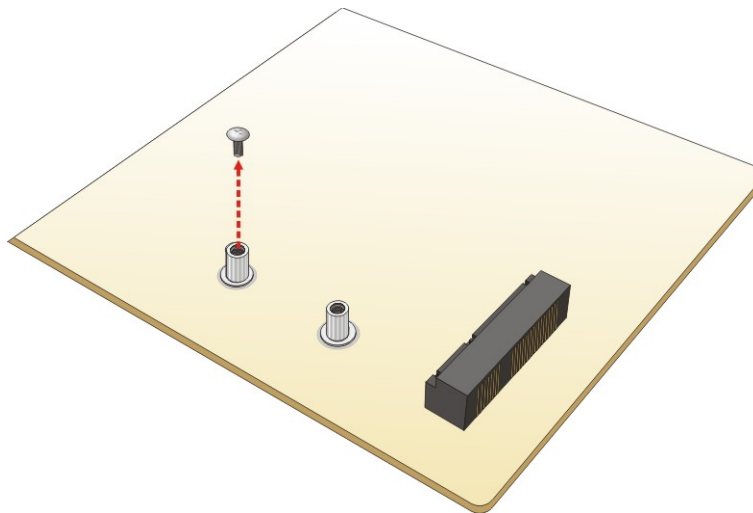

Figure 3-15: Removing the Screw
Step 1: Remove the retention screw as shown in **Figure 3-15**.